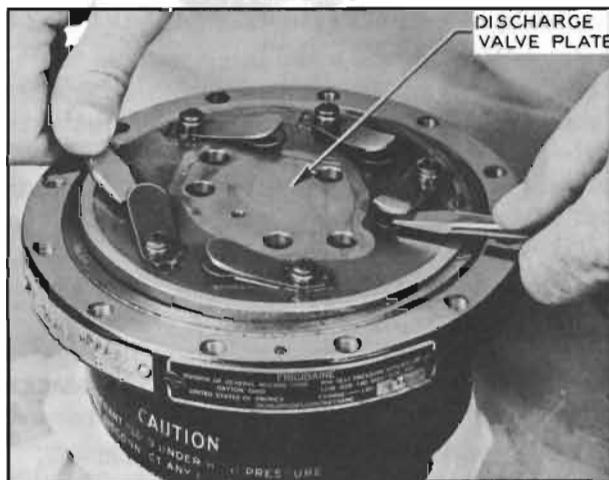

Figure 11-37—Removing Discharge Plate
5. Using two screw drivers, carefully lift discharge valve plate from compressor body. See Fig. 11-37.